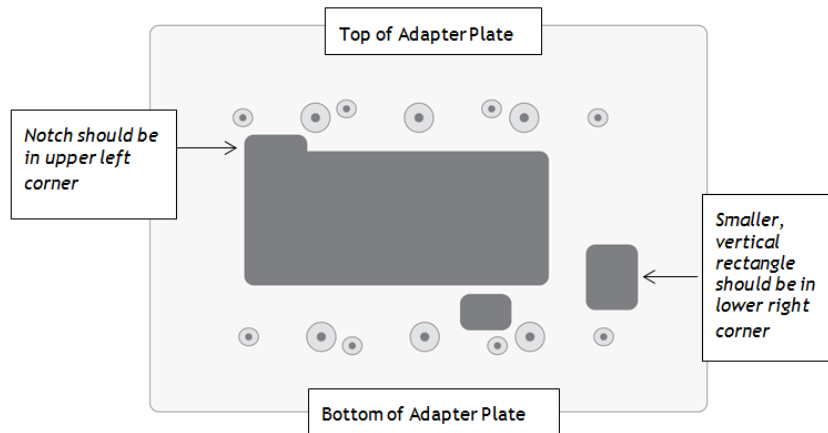

Figure 16: Determine Top & Bottom of Plate
- Step 23 Determine which end of the adapter should be situated on top, and which end should be situated on the bottom. As shown in Figure 16, the notch in the main display should be in the upper left corner, and the smaller, vertical rectangle should be in the lower right corner.